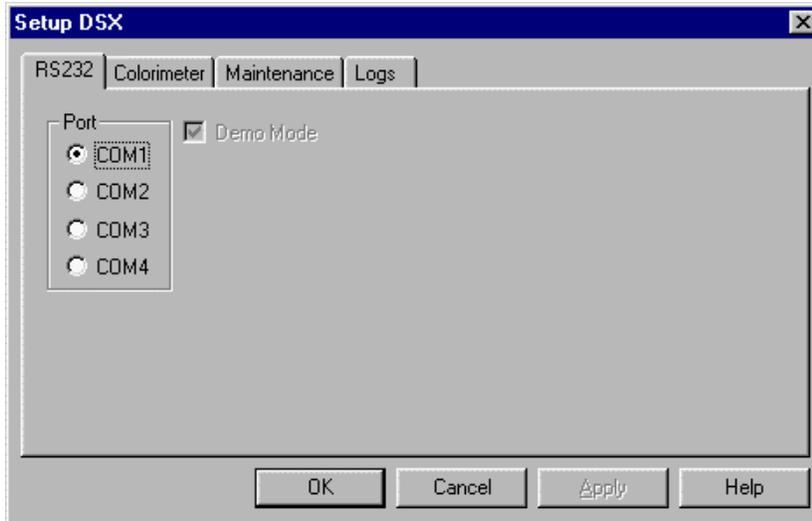

Figure 23. Setup DSX Dialog Box
2. Select **Setup**. The Setup DSX dialog box is displayed (Figure 23).